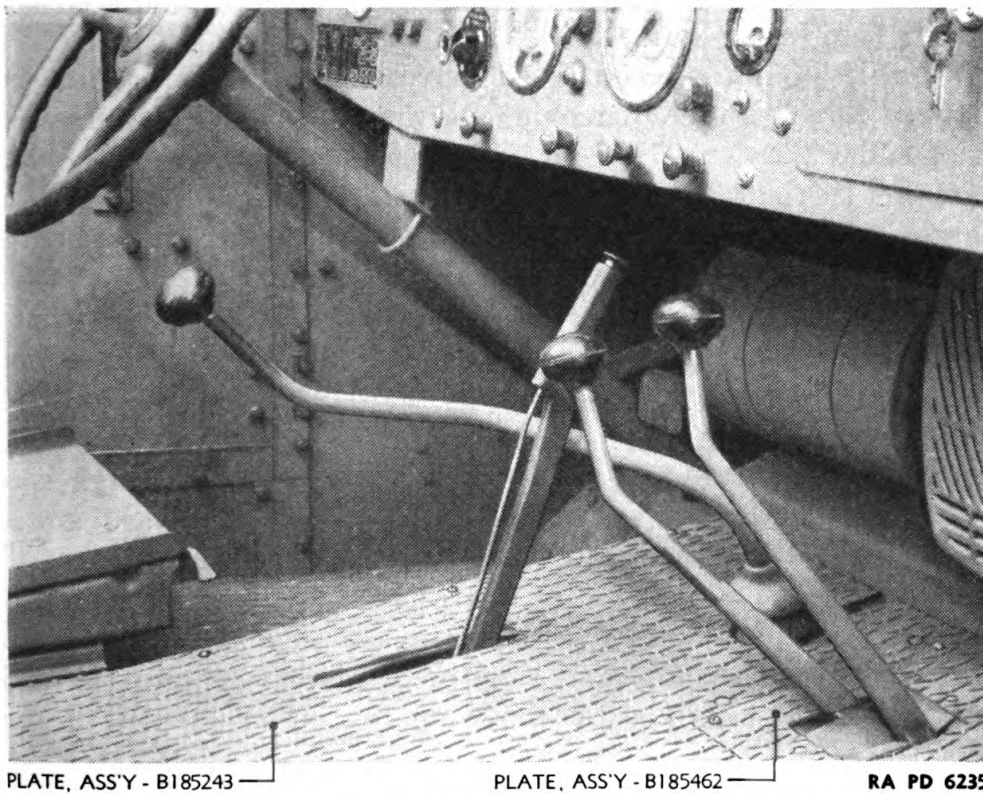

FIGURE 80.—Transmission shift levers and floor plates, installed.
*b.* Remove tunnel floor plates over transmission—screw driver. Remove 11 screws (A215607) holding tunnel plate (B185243), and three screws (BCOX1.1AF) holding transfer case shift lever floor plate (B185462), and remove plates (fig. 80).